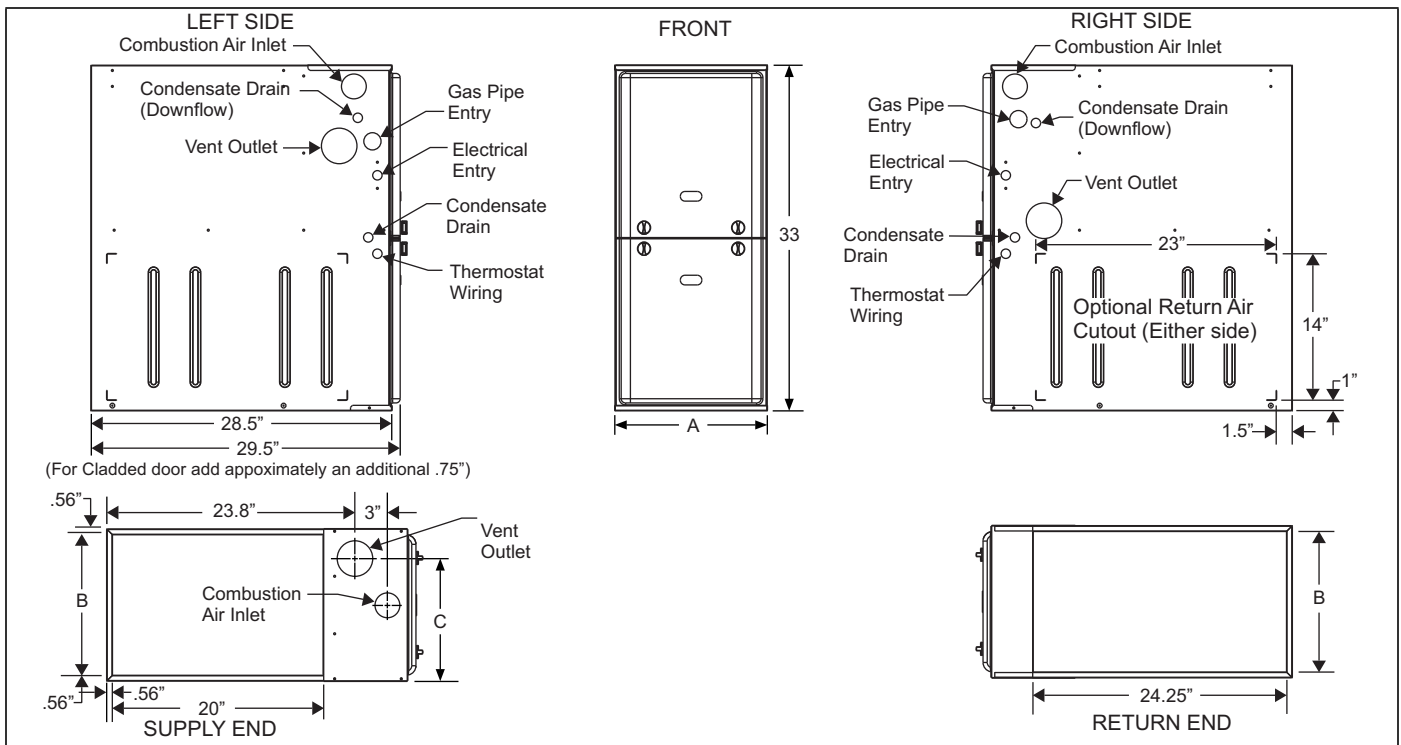

FIGURE 13: Dimensions
*Some accessories such as electronic air cleaners and pleated media may require a larger side opening. Follow the instructions supplied with that accessory for side opening requirements. **Do not** cut the opening larger than the dimensions for the “Optional Return Air Cutout” shown in Figure 13.*
Gas piping may be connected from either side of the furnace using any of the gas pipe entry knockouts on both sides of the furnace. Refer to Figures 13 and 16.